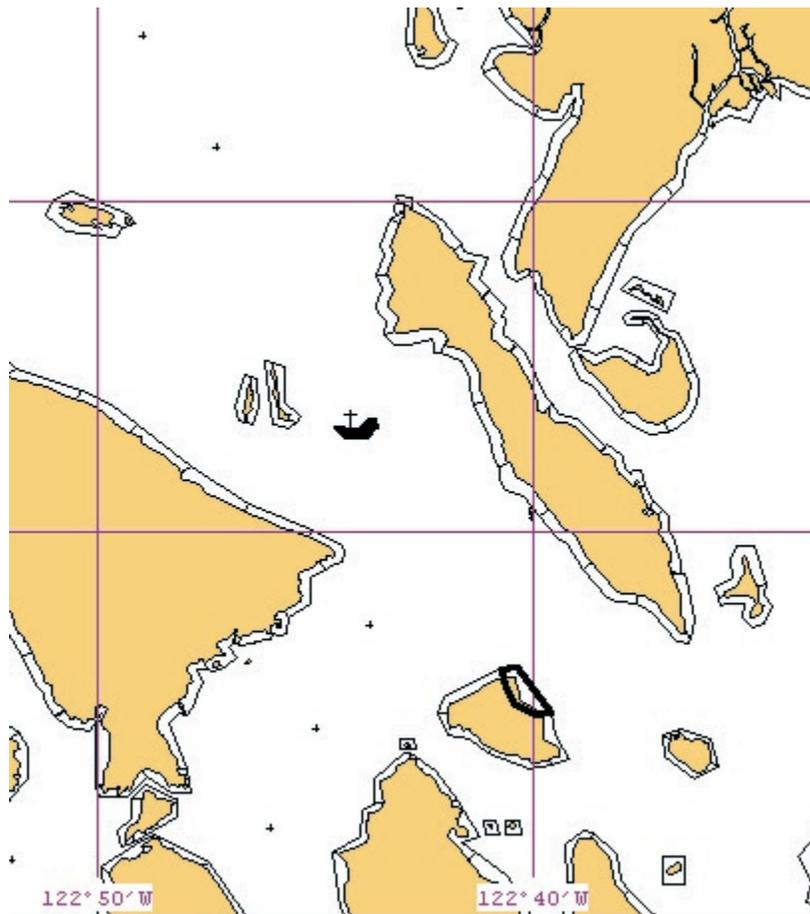

Figure 25. Example TAP map for Site Oiling Analysis menu selection
- 5 Now, with the cursor, select a receptor site. The spill area in the map window will look something like figure 25.